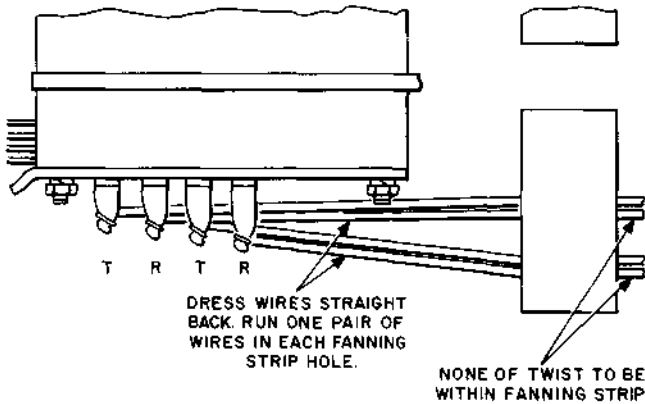
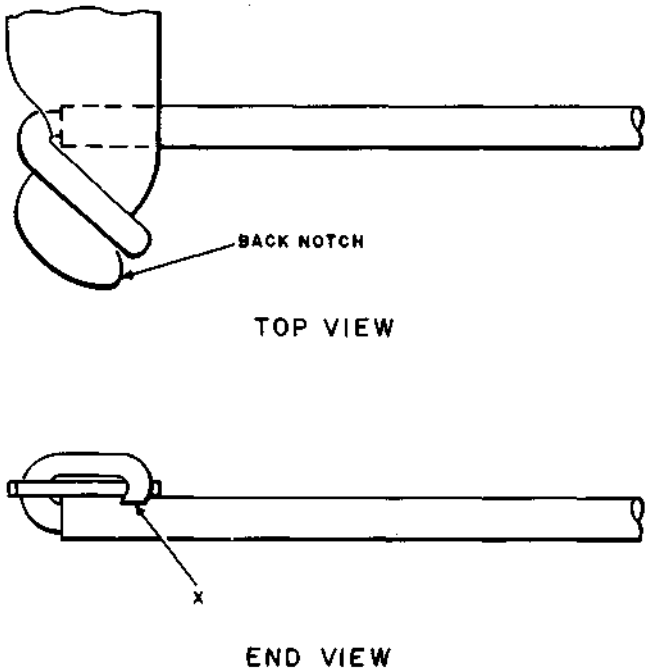

Fig. 5—Termination of Wire on 444-Type Jacks at MDF
Fig. 6—Termination of Wire on Terminal Having a Back Notch
8.07 To terminate a wire on a 444-type jack, pass the wire through the proper hole in the fanning strip as shown in Fig. 5. Bring the wire under the terminal, up through the notch, across the top of the terminal, and down through the back notch as shown in Fig. 6. Cut or break the excess wire at point "X".